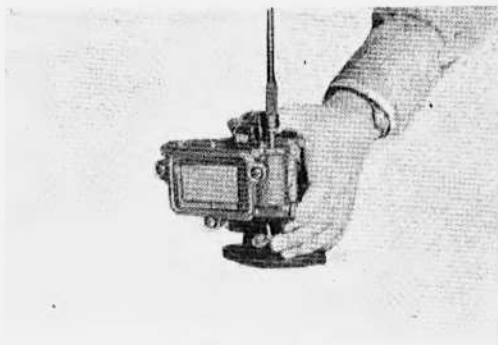

Figure 114
(3) Unloosen pump rod lock nut from accelerating pump (Fig. 114).